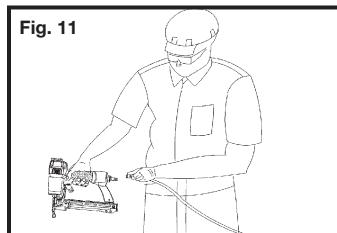

Fig. 11
**18. Always assume the tool contains fasteners.** No horseplay. Respect the tool as a working implement. Fig. 11.